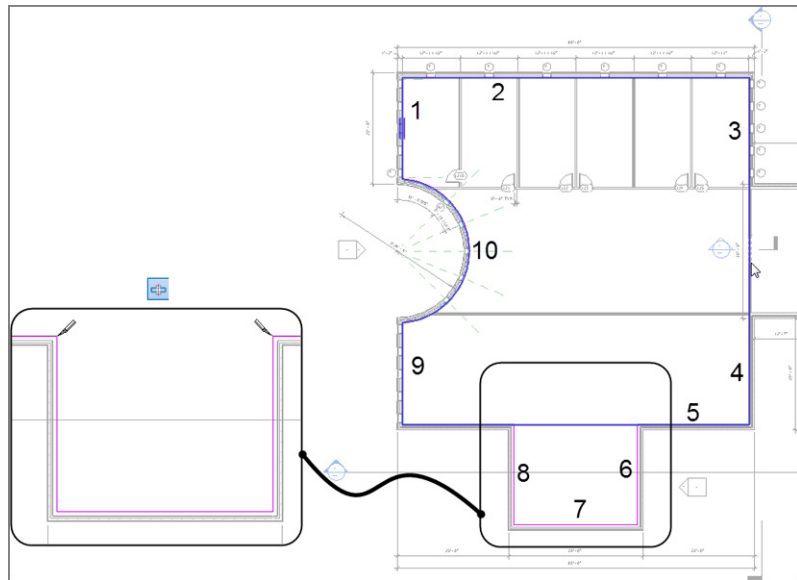

FIGURE 6.10: Selecting the walls
5. Keep picking the walls, as shown in Figure 6.10. You need to have a continuous loop—no gaps and no overlaps.